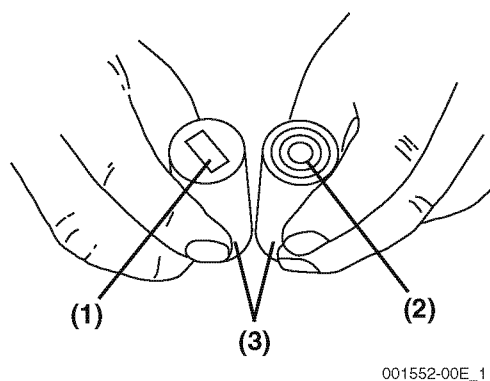

Figure 5-85
The tappets (**Figure 5-85, (3)**) are offset to prevent uneven wear.